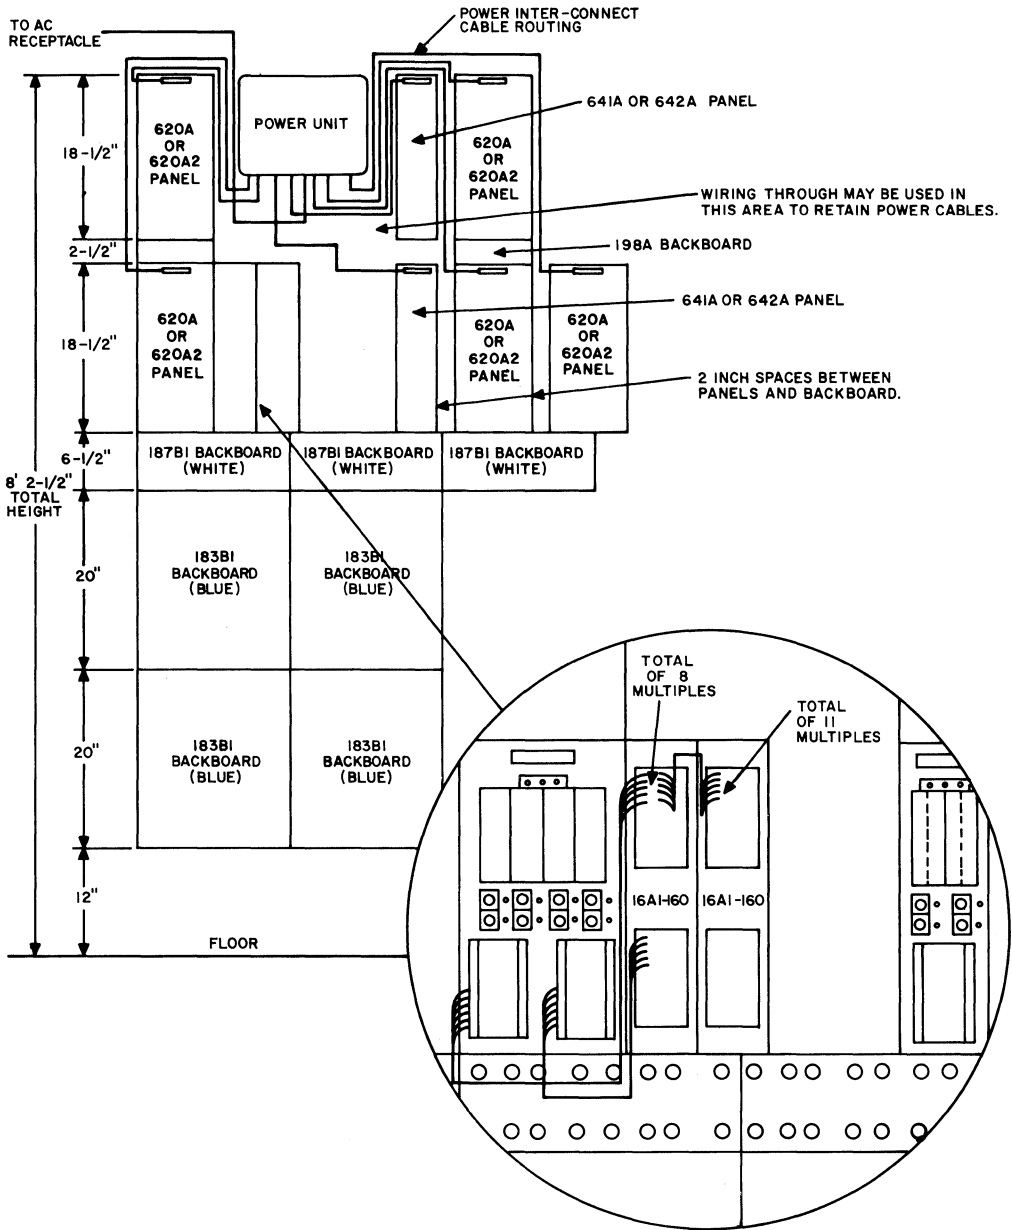

Fig. 8—Stacked Modular Apparatus and Method of Terminal Multipling Using 16A1-160 Terminal Blocks
3.10 Where modular panels must be stacked one above the other, the following installation method is recommended (see Fig. 8 and 9).